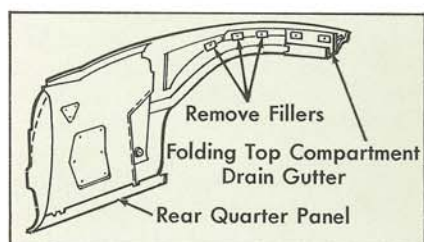

FIG. 2
1. Detach the folding top compartment bag from the rear seat back panel, and check the outer ends of the rear trim stick assembly for rubber fillers between the trim stick and inner panel. See Fig. 2. If the fillers are present,